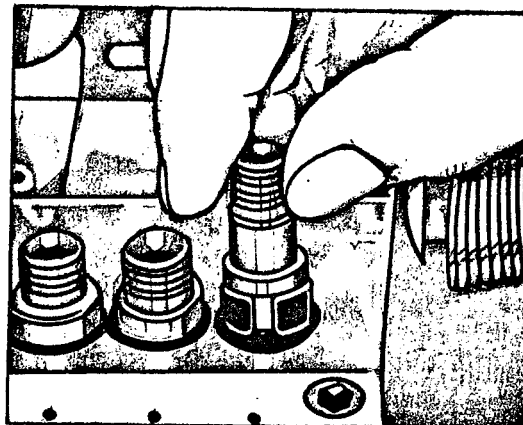

Fig. 11 - Fitting the Delivery Valve.
- Fit the new valve so that its slot engages with the locating pin of the seating (fig. 11).